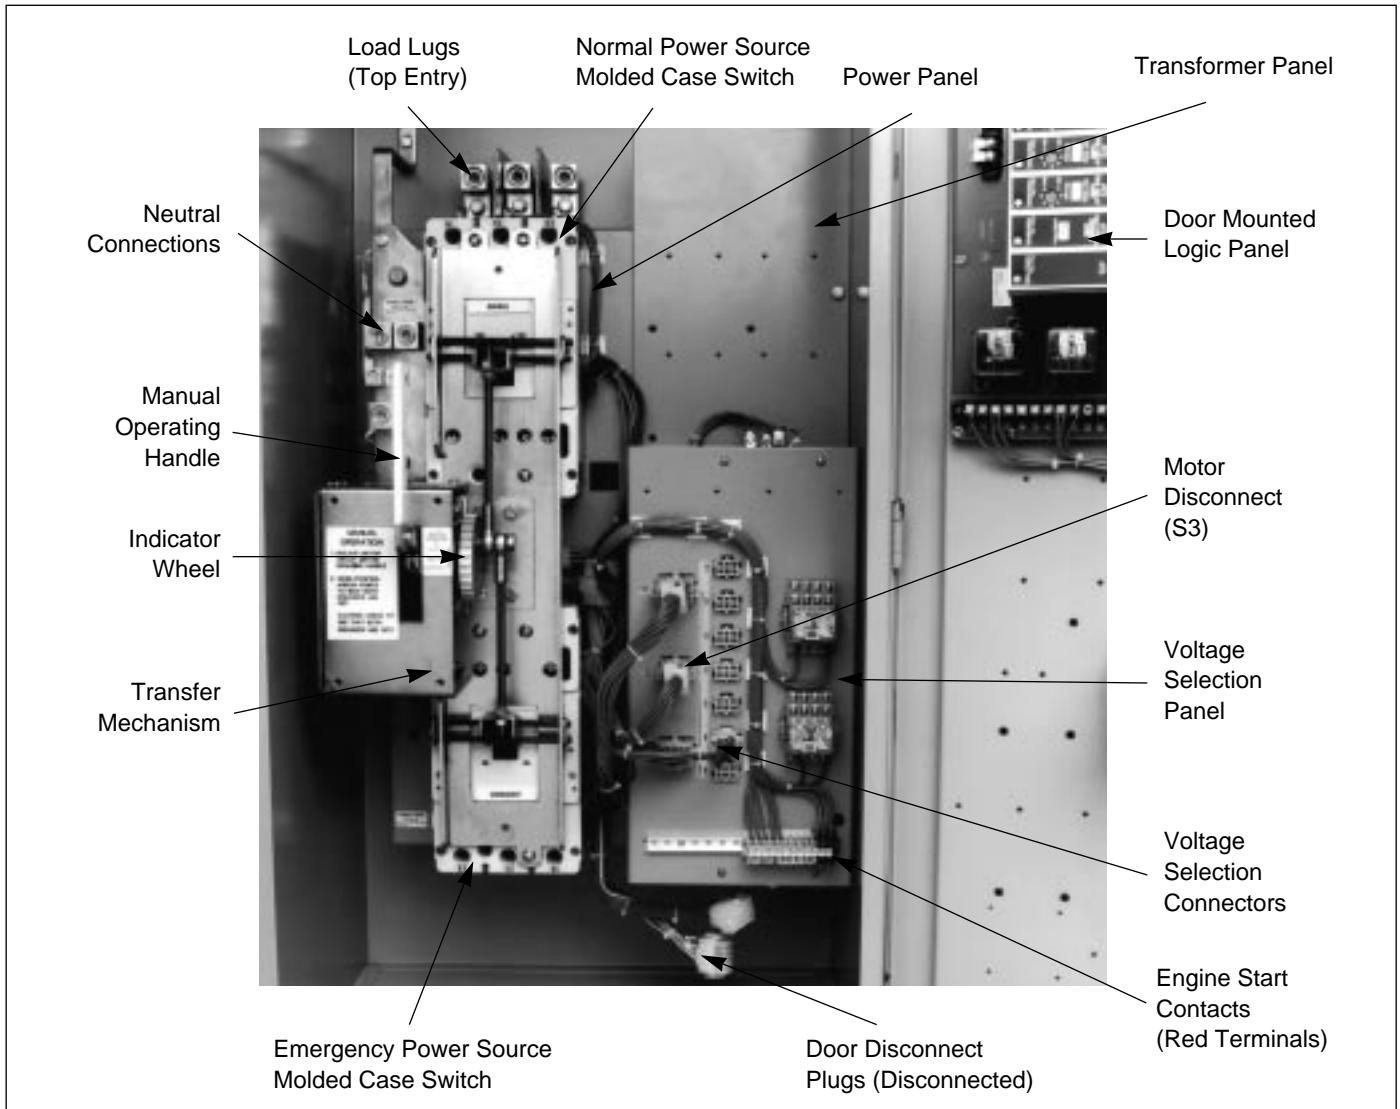
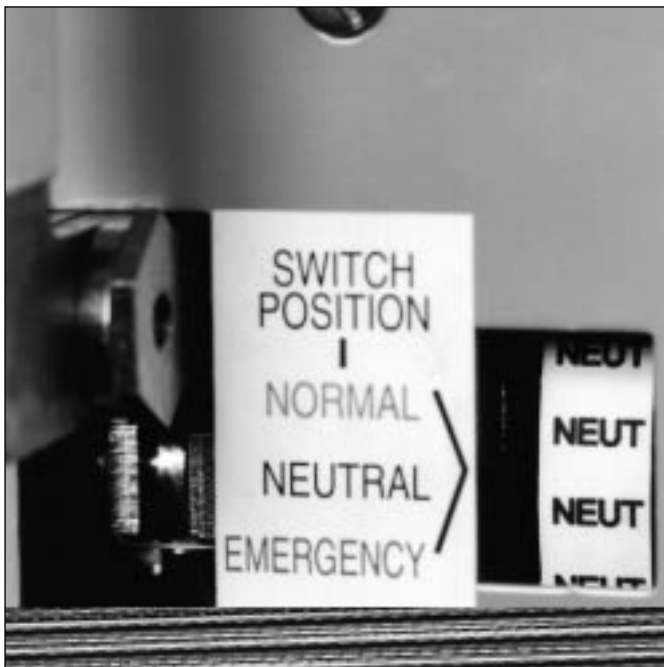

Figure 4-4 Typical (225-1000 Amperes) Vertical Design Transfer Switch Equipment (Door Open and Deadfront Shield Removed)
Figure 5-3 Indicator Wheel Indicating Neutral Position on Vertical Design
Step 1: Disconnect the power panel from the rest of the transfer switch by unplugging the connector plugs (S1, S2 and S3) (Figure 4-4).
The vertical design transfer switch utilizes a mechanical mechanism with a manual operating handle (Figure 4-4). The manual operating handle can be used to create the rotational motion required to open and close the main contacts through a rigid mechanical interlocking system (Figure 5-1). An indicator wheel attached to the operating handle and mechanical interlocking system rotates with each movement of the handle to open and/or close the main contacts (Figure 5-2). The three switch positions (Normal, Neutral and Emergency) are visually indicated on the indicator wheel (Figure 5-3).